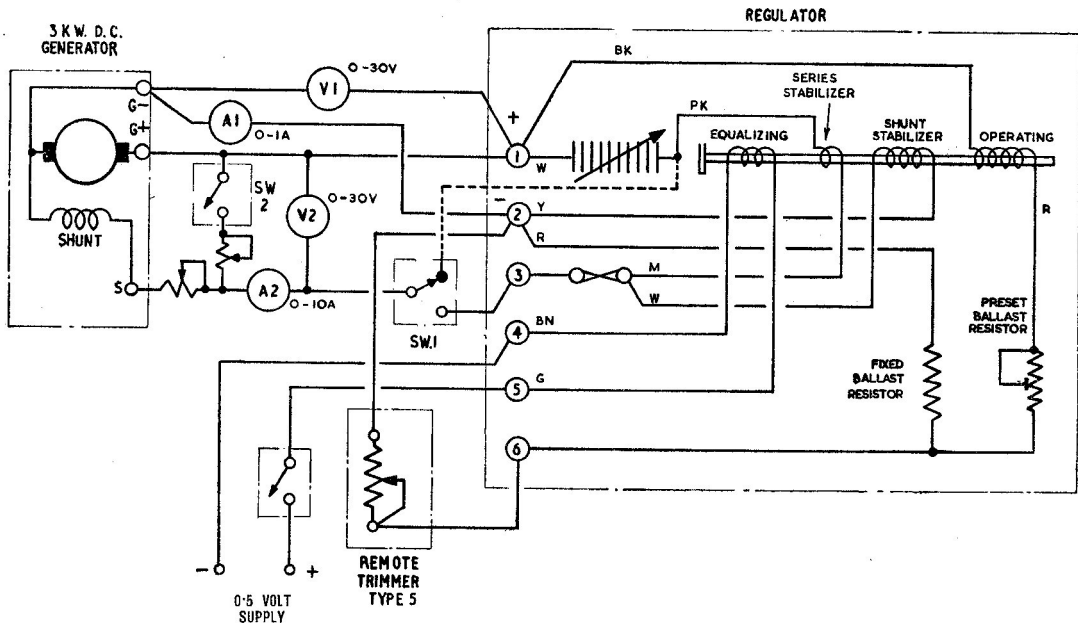

Fig. 3. Test circuit diagram
7. ◀ It is preferable that the regulator should be tested in conjunction with the rotary transformers, Type 1050. If this is not available, however, a test may be carried out using a d.c. generator of suitable characteristics, such as Type O2 or U0, connected as shown in the circuit diagram in fig. 3. ▶
8. Disconnect and insulate the pink lead from the pile end bracket, and substitute the test lead from SW1 (fig. 3). With the stabilizing windings disconnected by switching SW1 to the test lead, the regulator must be adjusted to control the generator output at 28 volts with the coil current shown on A1 adjusted to within the limits of 0.6 and 0.66 amp. cold.